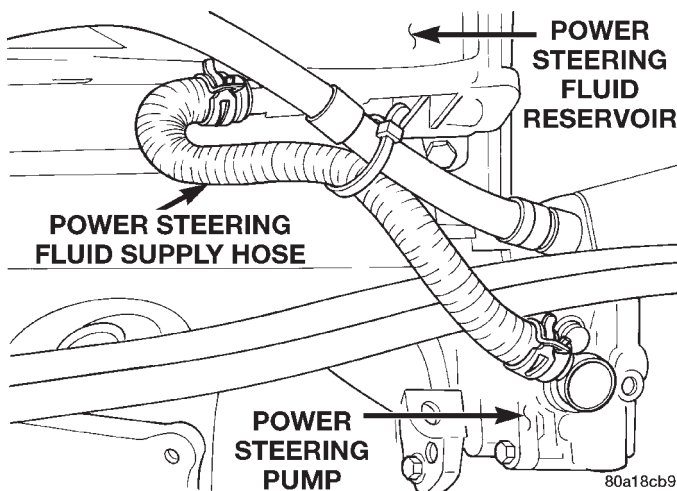

Fig. 20 Power Steering Fluid Supply Hose 2.0 And 2.4 Liter Engine
(2) Remove the tie-strap (Fig. 20) holding the power steering fluid supply hose to the power steering pressure hose.
(3) Remove hose clamp, attaching power steering fluid supply hose to power steering fluid reservoir (Fig. 20). Then remove power steering fluid supply hose from power steering fluid reservoir.
(2) Install power steering fluid supply hose on power steering fluid reservoir fitting. Install hose clamp on power steering fluid supply hose at power steering fluid reservoir (Fig. 20). **Be sure hose clamp is installed on return hose past upset bead on power steering fluid reservoir.**
(3) Install power steering fluid supply hose on power steering pump fitting. Install hose clamp on power steering fluid supply hose at power steering pump fitting (Fig. 20). **Be sure hose clamp is installed on power steering fluid supply hose past upset bead on power steering pump fitting.**
(4) Install the tie-strap (Fig. 20) holding the power steering fluid supply hose to the power steering pressure hose.